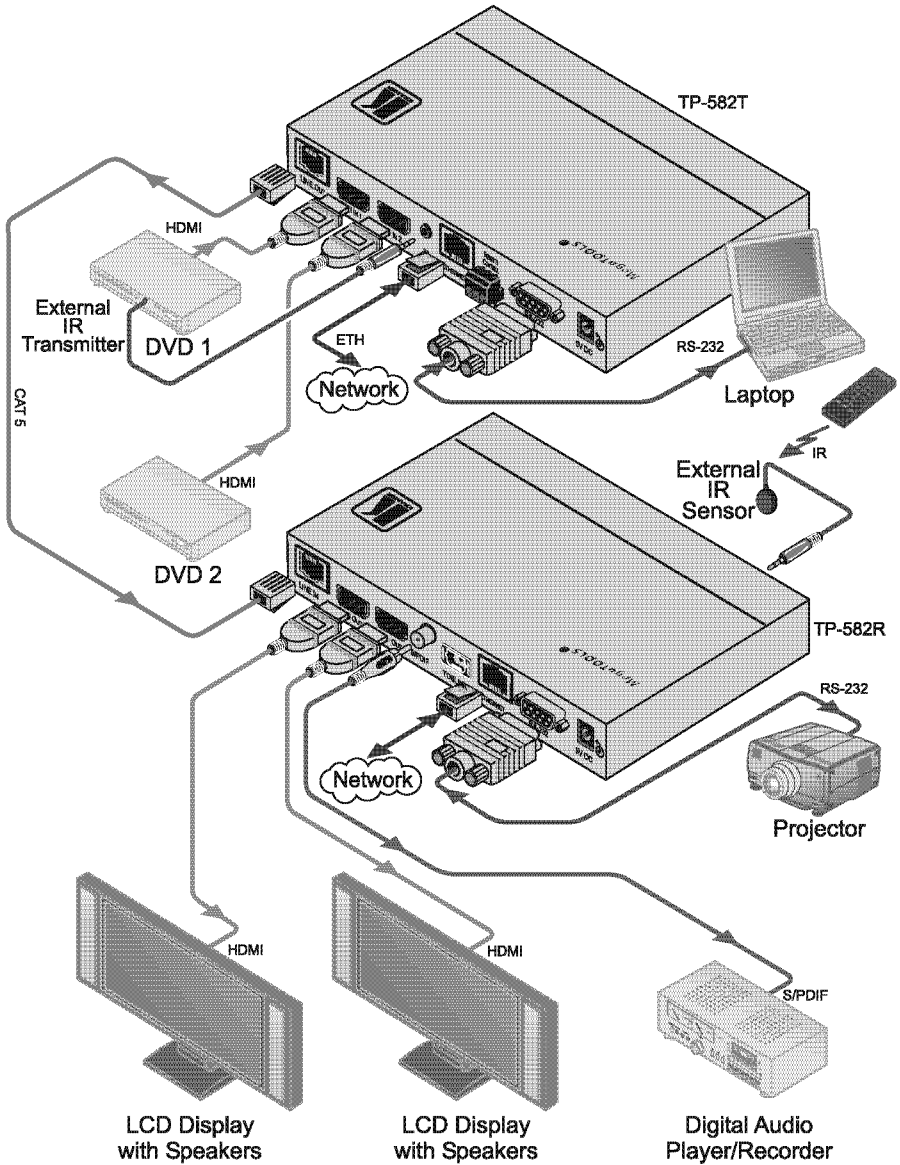

Figure 4: Connecting the TP-582T/TP-582R Transmitter/Receiver
To connect the **TP-582T** or **TP-581T** as shown in the example in Figure 4, do the following:
6. Connect the REMOTE CONTROL terminal block to an external set of switches (not shown in Figure 4).
8. Connect the 5V DC power adapter to the power socket and connect the adapter to the mains electricity (not shown in Figure 4).
To connect the **TP-582R** as shown in the example in Figure 4, do the following:
7. Connect TOSLINK[®] connector to an optical audio acceptor (for example, a digital audio recorder) (not shown in Figure 4).
9. Connect the 5V DC power adapter to the power socket and connect the adapter to the mains electricity (not shown in Figure 4).